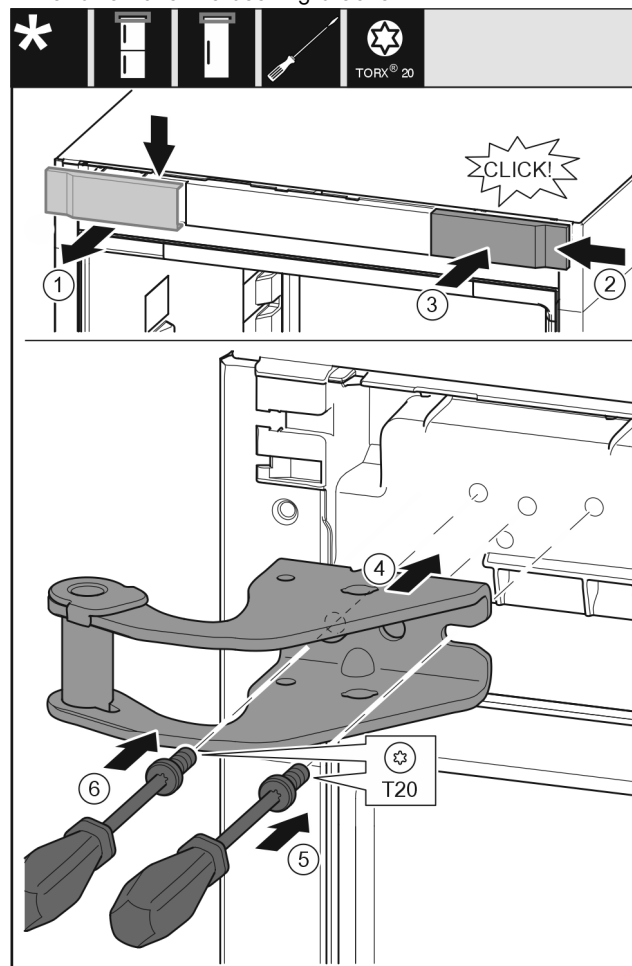

Fig. 9
- Take off the cover to the front from above. Fig. 9 (1)
- Rotate the cover 180° and clip onto the other side from the right. Fig. 9 (2)
- Latch the cover into place. Fig. 9 (3)
- Position the upper bearing bracket. Fig. 9 (4)
- Insert the screw with a T20 screwdriver and tighten it. Fig. 9 (5)
- Insert the screw with a T20 screwdriver and tighten it. Fig. 9 (6)